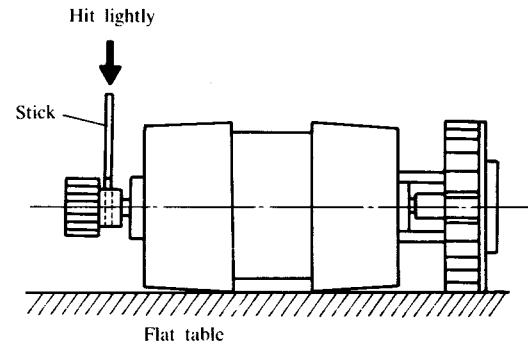

Fig. 50
- (2) Mount the gear 1 to the shaft in the same way as above (1) (Refer to Fig. 50)